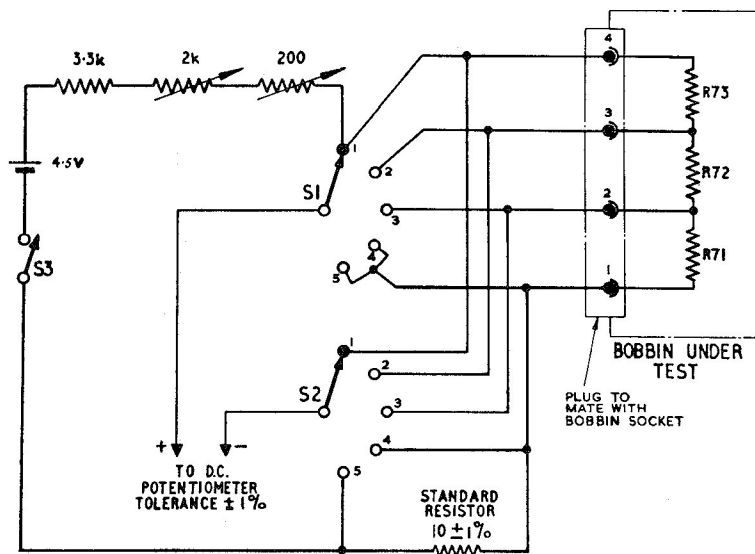

Fig. 3. Test circuit
R73, (although in some units the resistors are designated R74, R75 and R76). The resistors are wound from manganin wire and the ends terminated in four sockets at the base. The unit is attached to the amplifier by a plug and socket arrangement, with four outside sockets which carry the electrical connections (fig. 3), and central pin and bush for correctly locating and securing the unit to the amplifier. The central pin on the amplifier is threaded at the end and mates with a threaded socket inside the bobbin. To fit a datum selector to an amplifier, correctly locate the flat on the amplifier pin with the flat of bush in the datum selector, and push the selector home, finally securing the unit by screwing down the knurled-knob.
5. As a first check of a unit's serviceability, the resistance should be measured between poles 1 and 4, using a resistance bridge. The resistance should be of the order of $R71 + R72 + R73$ (App. 1 and 2). Continuity should then be checked between poles 1 and 2 and between poles 1 and 3. To test that the resistors are within the manufactured tolerances given in Appendices 1 and 2, a d.c. potentiometer and a circuit arrangement as shown in fig. 3 is required. The procedure for doing this is as follows.
6. (1) Set S1 to position 4 and S2 to position 5, Set R1 and R2 to approximately mid-travel and close S3.